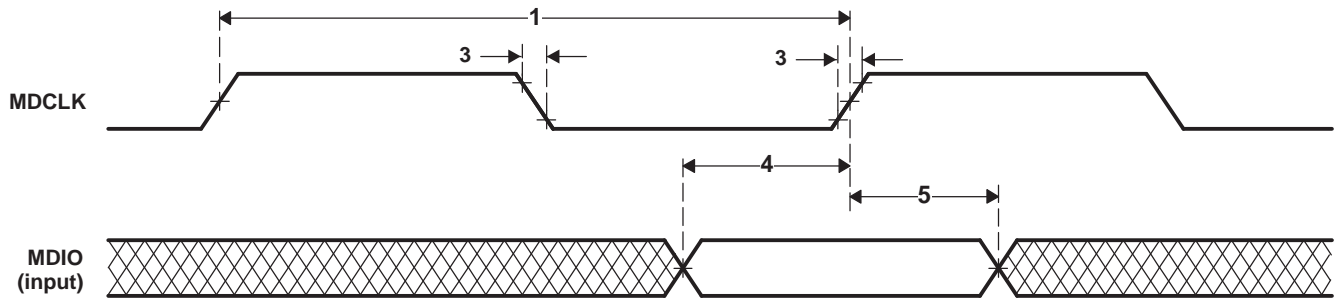
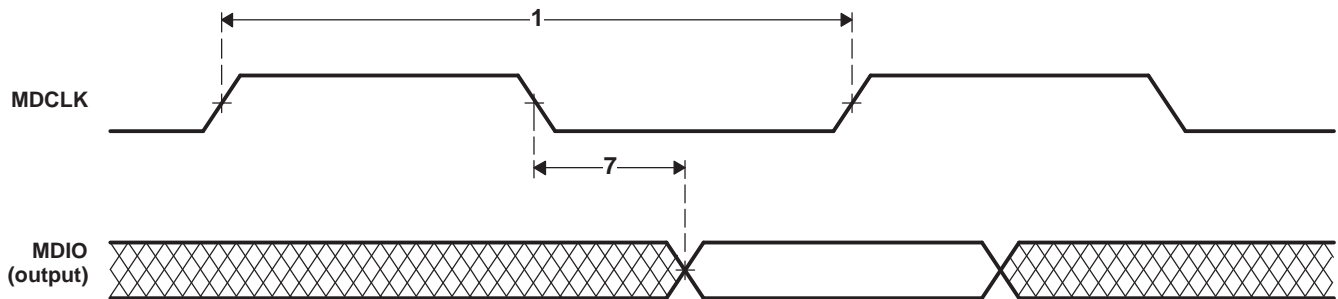

Figure 7-63. MDIO Input Timing
Figure 7-64. MDIO Output Timing
**Table 7-97. Timing Requirements for MDIO Input (see Figure 7-63 and Figure 7-64)**
Table 7-98. Switching Characteristics Over Recommended Operating Conditions for MDIO Output (see Figure 7-64)
**Table 7-103. Timing Requirements for Keyscan (see Figure 7-63 and Figure 7-64)**